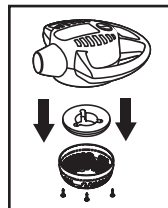

FIGURE 15
28. To clean inlet shield and foam pad, disconnect cord from receptacle and remove screws on bottom side of power unit. **FIGURE 15.**